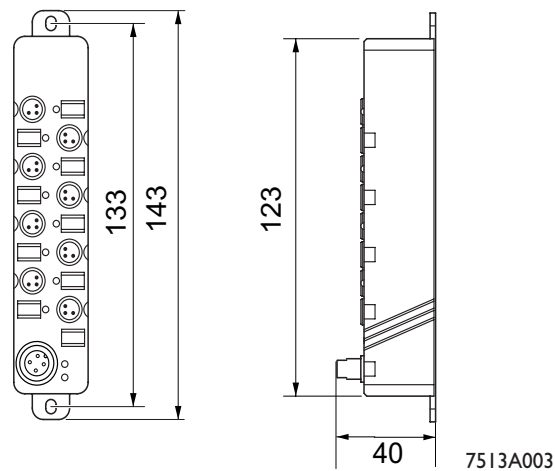
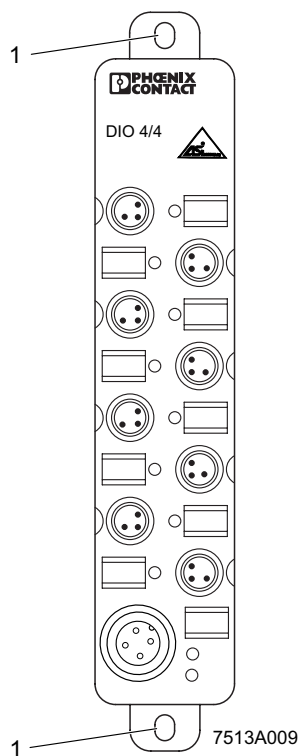

Figure 4-19 Housing dimensions of Fieldline Extension AS-i M8 devices in mm (digital I/O devices)
Figure 4-21 Front mounting of a Fieldline Extension AS-i M8 device
The devices can be mounted directly on the mounting surface using two mounting holes (1) in Figure 4-21. The diameter of the mounting holes is 4 mm, the cylindrical sinking is 8 mm. For the drill hole spacing, please refer to the dimensional drawings in Figure 4-19 on page 4-17.